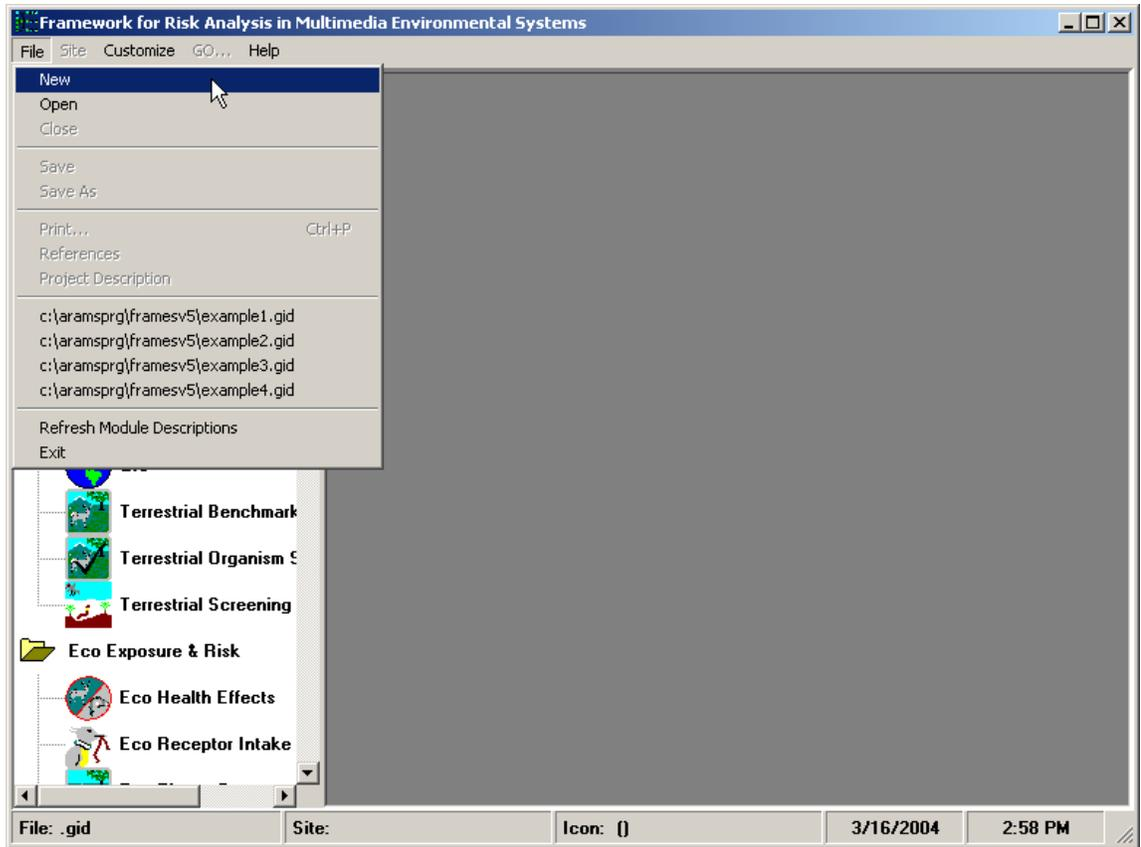
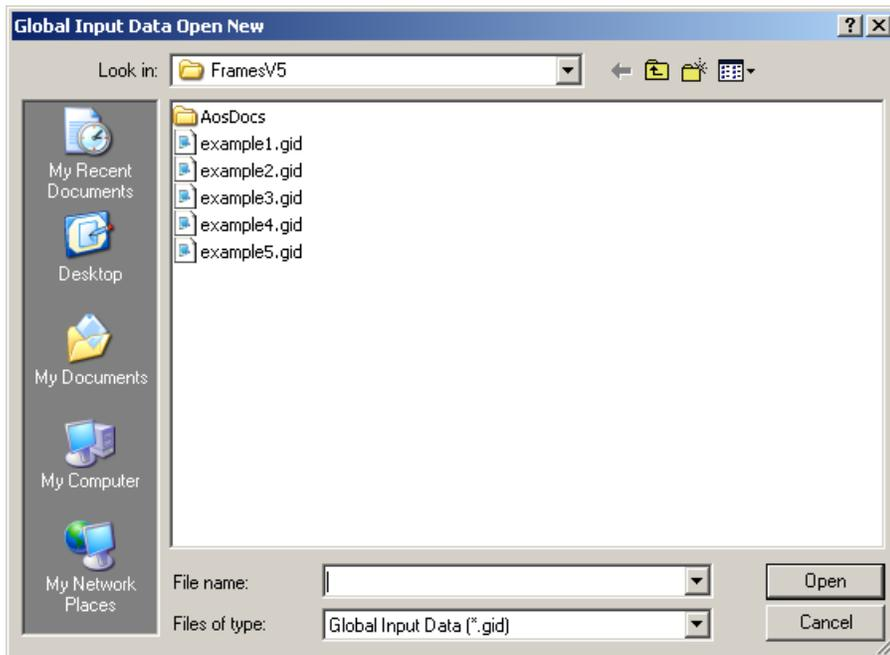
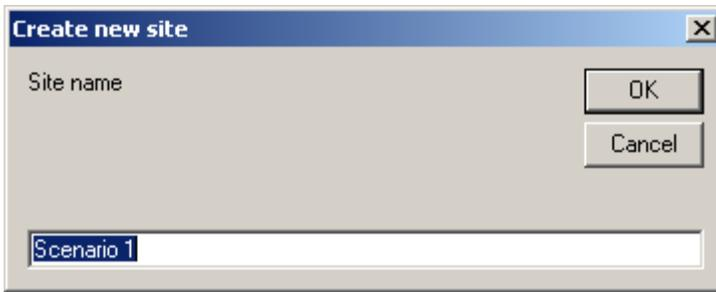

Figure 2. Opening a new file
Figure 3. Global Input Data Open New (new file window)
Figure 4. Create New Site screen (Input “Site name” box)
- While ARAMS/FRAMES is running, click “File” and choose “New” and a window titled “Global Input Data Open New” will appear (see Figure 2). In the “File Name” box, type the project name (e.g., “Ex4,” maximum of eight characters) and click “Open” (see Figure 3). **Do not name the “new file” “Example4” because it will write over the existing “Example4” file that was distributed with the tutorial.** A window titled “Create New Site” will appear. Type the project site name (e.g., “Site 1”) and click “OK” (see Figure 4).